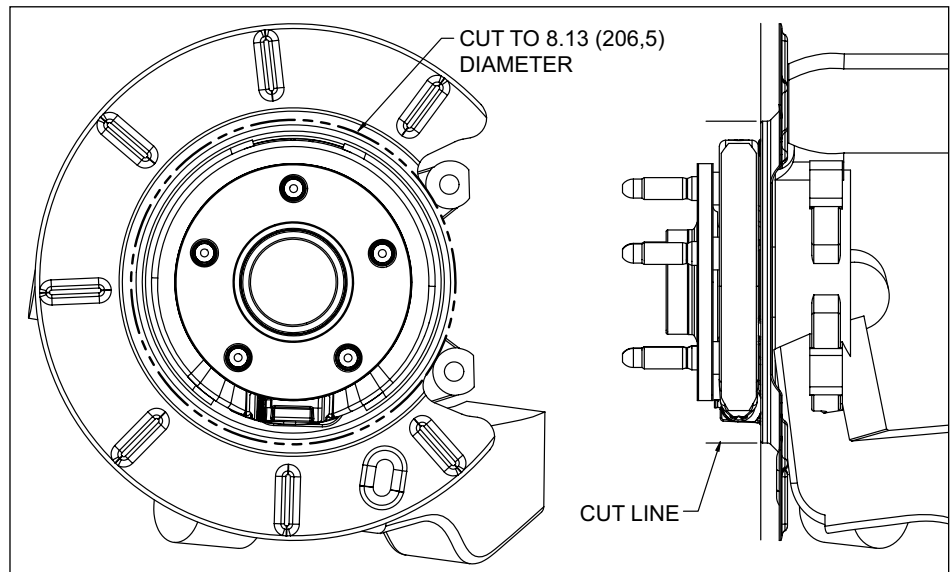

Figure 3. Dust Shield Modifications
•The dust shield needs to be modified as shown in Figure 3 to clear the new Wilwood rotor. **NOTE:** It is recommended that the dust shield be removed before modification, and the modifications be performed by a qualified machine shop.